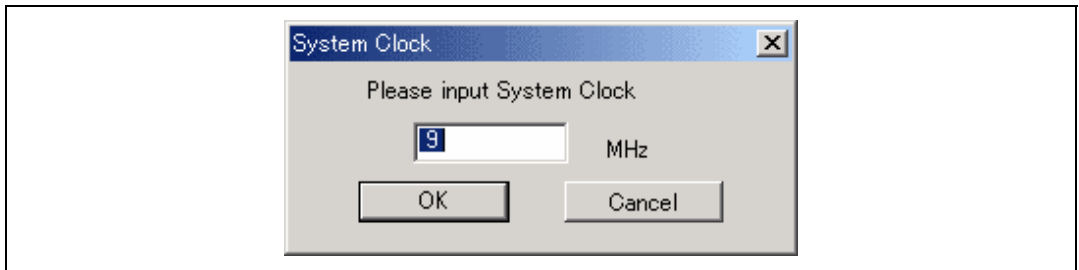

Figure 3.8 [System Clock] Dialog Box
10. When using the H8SX family microcomputer, the dialog box shown in figure 3.8 is opened.